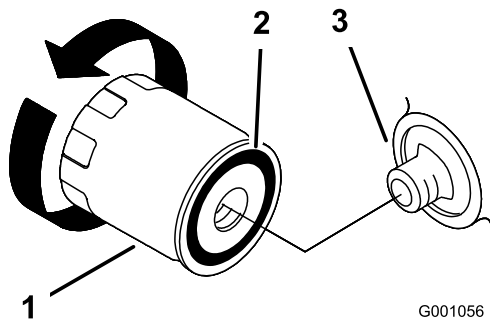

Figure 33
2. Remove the old filter and wipe the filler adapter gasket surface (Figure 33).
5. Apply a thin coat of new oil to the rubber gasket on the replacement filter (Figure 33).
6. Install the replacement oil filter to the filter adapter, turn the oil filter clockwise until the rubber gasket contacts the filter adapter, then tighten the filter an additional 2/3 to 1 turn (Figure 33).